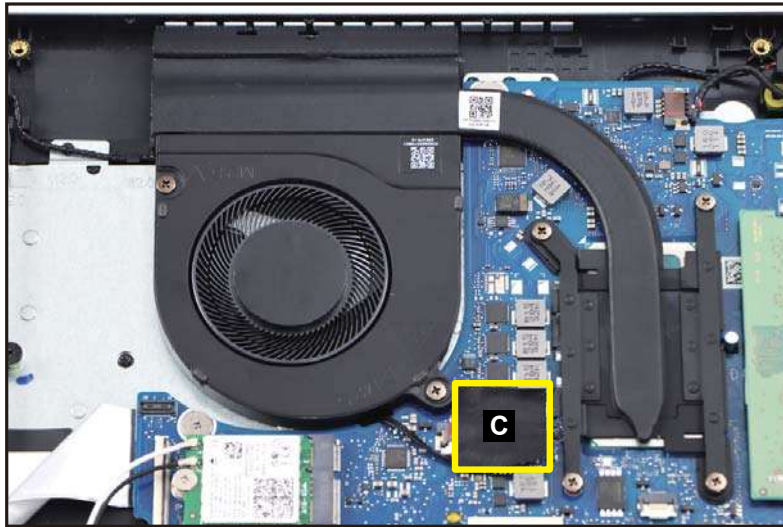

Figure 3-109. Replacing the Fan
4. Attach the tape (C) to secure the fan cable connection (Figure 3-109).